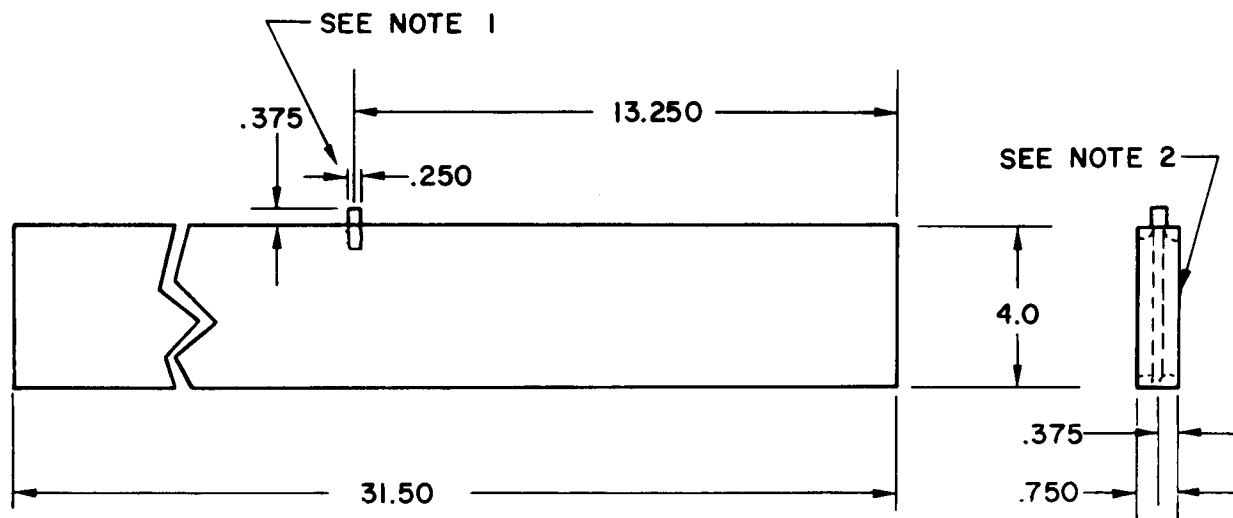

Figure 5-19. Fabricated Aileron and Flap Rigging Tool
1. With the flap handle in the "flaps up" position, check the up-neutral position by placing the flap rigging tool (shown in Figure 5-17) against the bottom of the wing and each flap at a point as close as possible to the outboard end of the flap. Ensure that the tool is not contacting any rivets. This tool may be fabricated firm dimension data given in Figure 5-19.)